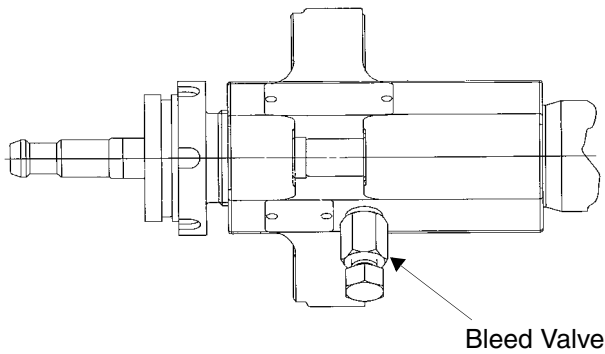

FIG. 16
1. Place a waste container under the pump bleed valve located behind the displacement pump outlet, FIG. 16. Using an adjustable wrench, open the bleed valve counterclockwise 1/3-1/2 turn.
2. Slowly open the component B air motor shutoff valve (E), FIG. 15. Make sure the pump begins to cycle and material flows from the bleed valve after several cycles of the pump, FIG. 16.
4. Close the bleed valve, FIG. 16.